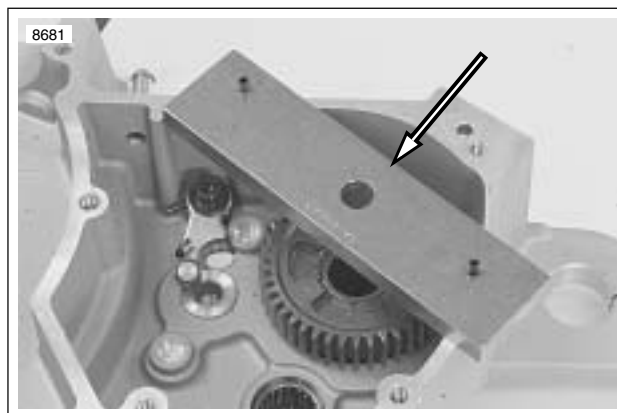

Figure 6-74. Bearing Remover Cross Plate Mounting (Part No. B-45847)
1. See Figure 6-74. Locate MAIN DRIVE GEAR REMOVER AND INSTALLER (Part No. HD-35316-A). Place cross-plate pins in appropriate holes in transmission case.